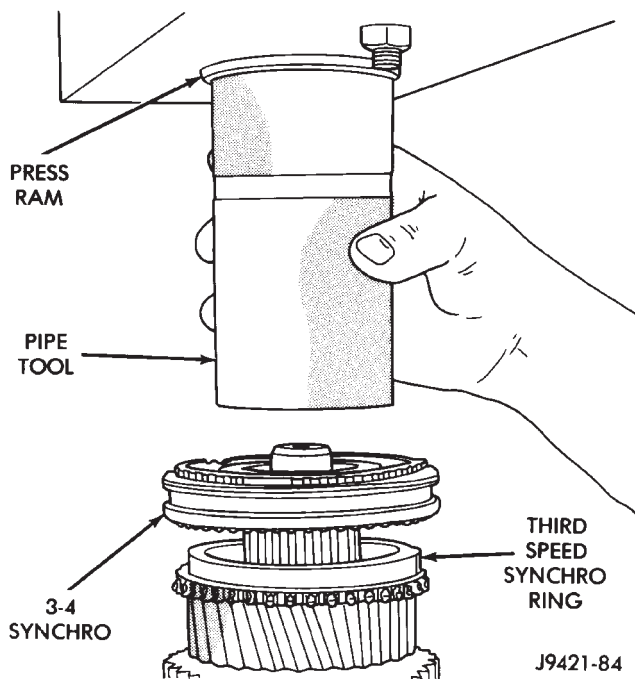

Fig. 77 Pressing 3-4 Synchro Assembly On Output Shaft
(32) Press 3-4 synchro assembly onto output shaft with shop press and suitable size pipe tool (Fig. 77). Make sure that the tool presses on hub as close to output shaft as possible but does not contact the shaft splines.